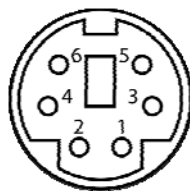

Figure 4-25: PS/2 Pinout and Configuration
- CN Pinouts: See Figure 4-25, Table 4-25